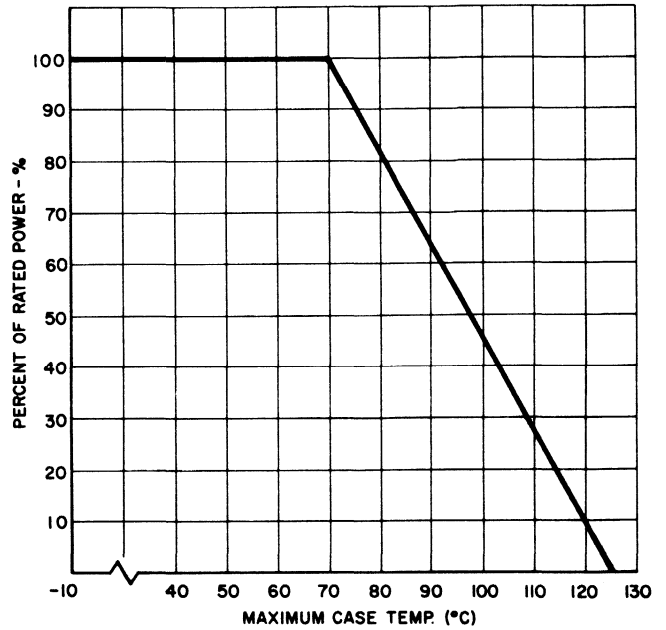

FIGURE 2
- (1) Steady State Defined as normal input conditions. If non-sinusoidal wave input is present, peak voltage input values should be used to select model.
- (2) See Figure 2.